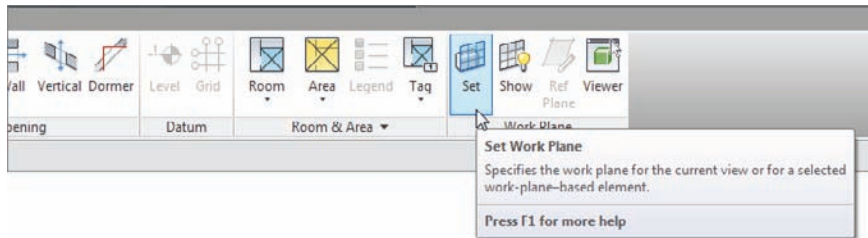

FIGURE 12.82 The Set button on the Work Plane panel of the Home tab
2. On the Home tab, find the Work Plane panel to the right of the Ribbon and click the Set button, as shown in Figure 12.82.